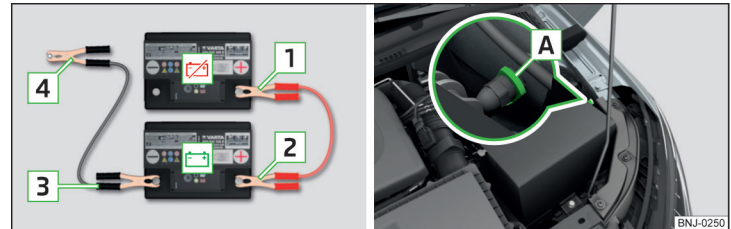

Fig. 278 **Jump-starting:** 🛑 - discharged battery, 🔋 - power-supplying battery/ground point of the engine for the START-STOP system
- For vehicles **with** the START-STOP system, attach clamp **4** to the ground point of the engine **A** » Fig. 278.